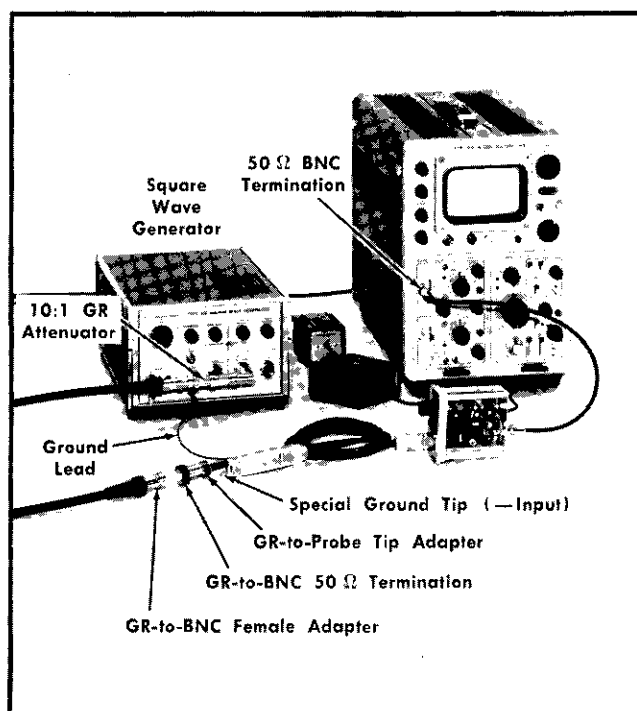

Fig. 6-26. Equipment setup for transient response adjustment, step 6.
6. Adjust Transient Response (C521, C429C, C454A, C454C, C454D, C458) ①
a. The preliminary control settings apply. The equipment setup appears in Fig. 6-26.
b. Check that the special ground tip remains on the Probe — Input tip. Connect the ground lead from the Probe ground lug to the chassis of the Type 106 Square-Wave Generator (item 5). Set the Square-Wave Generator controls as follows: